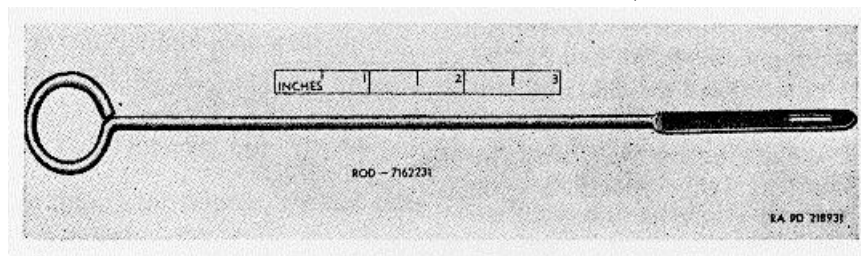

Figure 40. Special tools and equipment (High Standard and Ruger).
- (3) *Bore and chamber of High-Standard and Ruger Mark I automatic pistols.* Place flannel cotton patch in the slot of the rod 7162231 (fig. 40) and saturate it with rifle-bore cleaner. Move the rod back and forth several times in the barrel. A light coating of rifle-bore cleaner should be allowed to remain in the bore and chamber between cleaning.
- (4) *Parts other than barrel.*